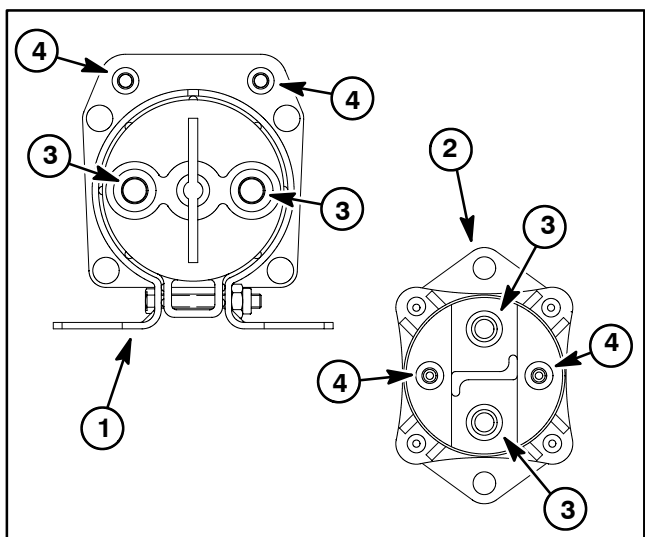

Figure 32
3. Using jumper wires, apply 48 VDC directly across the contactor coil posts (Fig. 32). The contactor should click. With the contactor coil energized, resistance across the main contact posts should be less than **1 ohm**.
5. Measure resistance across the contactor coil posts (Fig. 32):